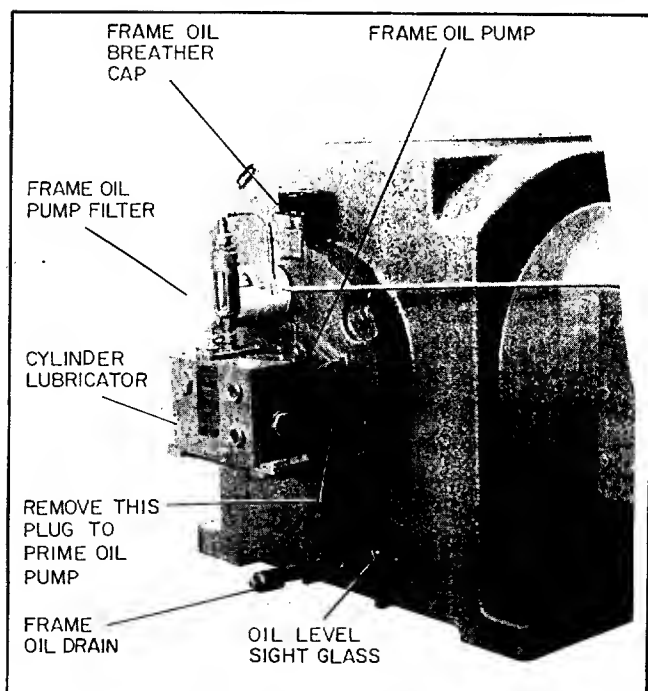

Figure 10. Priming Oil Pump.
When starting for the first time the oil pump must be primed. Remove the pipe plug in the pump cover (See Figure 10) and pour oil down the hole into the pump. Priming is necessary only before the initial start up or after the machine has been idle for several days.
General — Oil pressure varies from unit to unit according to operating speed and lube oil viscosity. The compressor will operate satisfactory with 8 psig (0.55 bar) oil pressure measured at the pressure shut-down switch. (See Figure 10.) Normal Operating pressure is from 15 to 40 psig (1.03 to 2.76 bar).
2. A full flow replaceable cartridge type oil filter is used between the lube oil pump and the running parts. The cartridge is located on the main bearing housing (Figure 10). To replace the filter unscrew it from the housing and replace the entire unit with a new one, obtainable from Ingersoll-Rand branch stock.